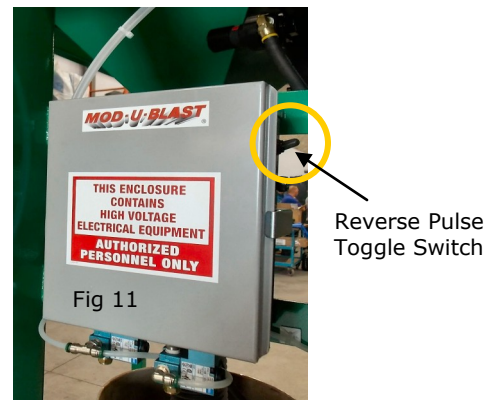

Fig 11
2. The toggle switch on the reverse pulse box (Fig 11) needs to be in the up/on position at all times during use of the system.
3. Keep the main power and the pulse on for 10 minutes to allow the filters to clean. (Fig 11 on page 6)**(The filters clean best when the dust collector fan is off)**